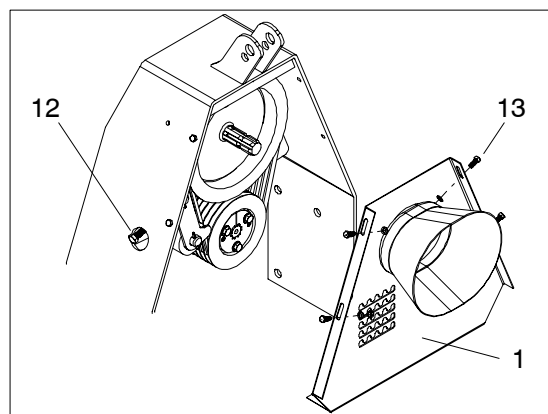

Fig 13. Installing the 160T belt transmission cover plate.
10. Adjust the belt tightener so that the roller touches the belts lightly, then tighten the adjusting bolt (12) by two to three turns. See Figure 13.